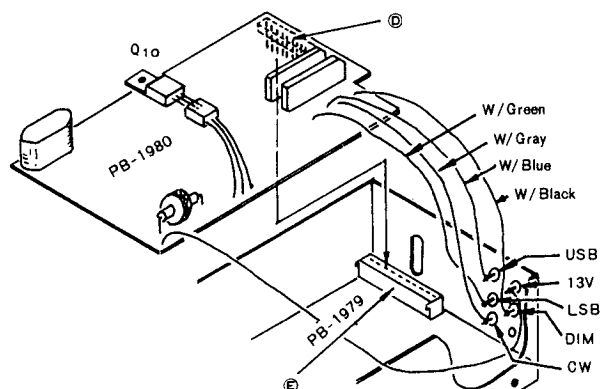

Figure 24
- (4) The color codes for the external access wiring are shown in Figure 24.